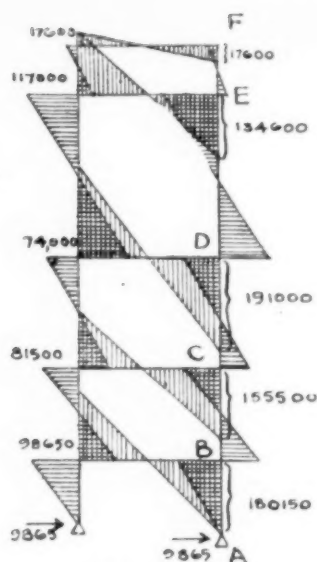

Fig. 26.
beams are points of zero bending moment (*Fig. 26*). Taking the middle points of the columns also as points of zero bending moment as a first approximation, the moment-line can readily be constructed (*Fig. 26*). The corner moments are:
Fig. 26 shows that check (1) is fulfilled in all stories, as the same moments are positive on one side and negative on the other, and this also applies to check (2).